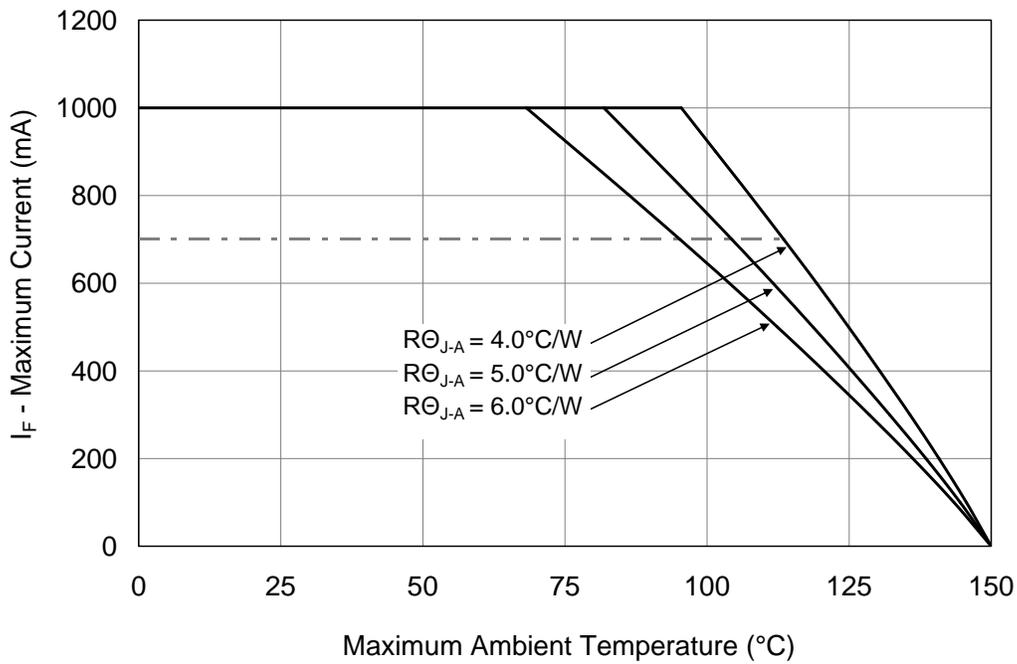

Figure 11: Maximum forward current vs. ambient temperature based on TJ(MAX) = 150°C.
- Maximum DC forward current is determined by the overall thermal resistance and ambient temperature. Follow the curves in Figure 11 for current derating.
Notes for Figure 11: